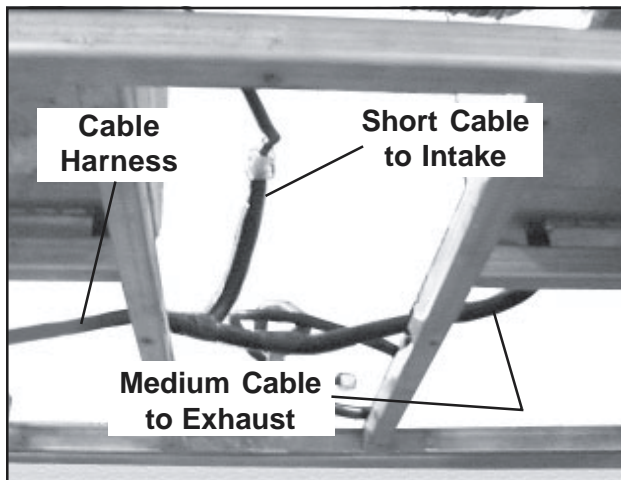

Figure 95. Blower Box Slit-sleeve Cable Connections
10. Disconnect black slit-sleeve cable from the cable harness to the electrical box (Figure 95).